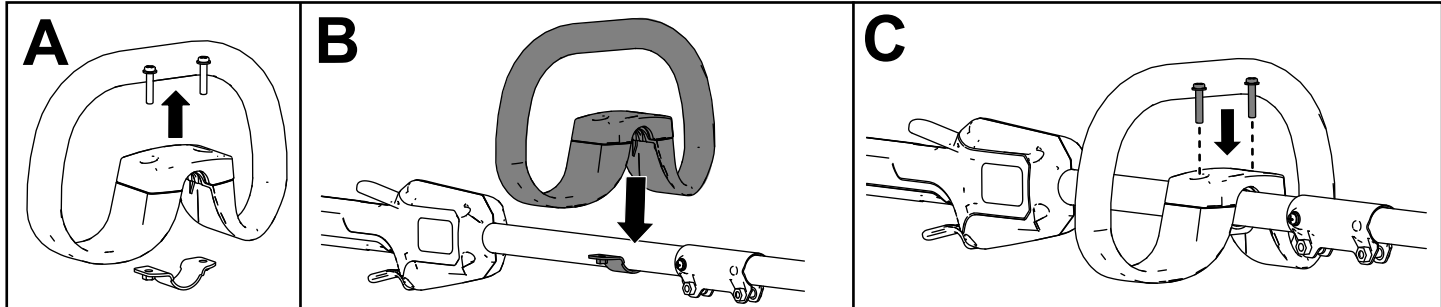

Figure 4
1. Separate the auxiliary handle from the handle plate by removing the 2 screws (A of Figure 4).
2. Line up the auxiliary handle with auxiliary handle plate on the trimmer handle (B of Figure 4).
3. Secure the auxiliary handle to the handle plate with the 2 previously removed screws (C of Figure 4).